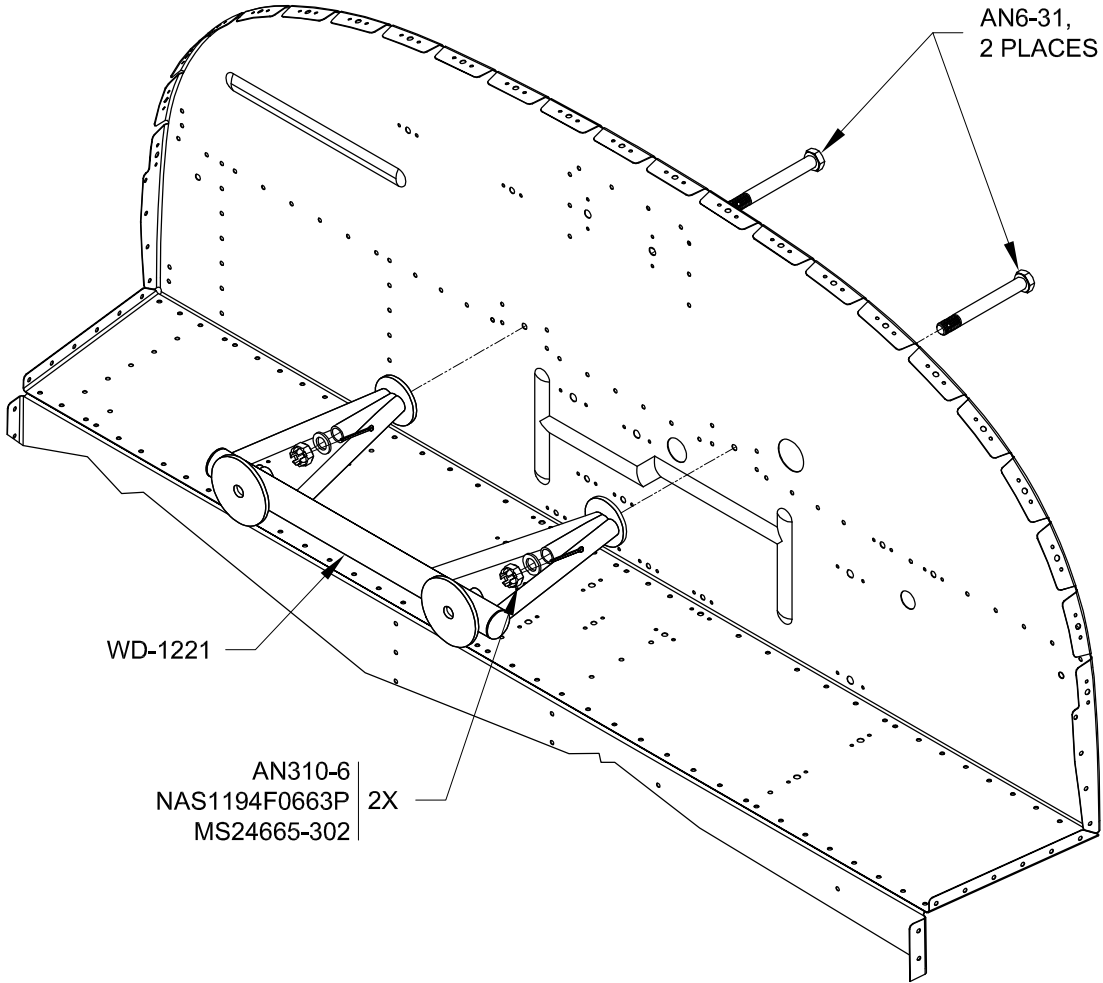

FIGURE 1: ATTACHING THE ENGINE MOUNT STANDOFF
Step 2: Permanently bolt the WD-1221 Engine Mount Standoff to the Firewall Assembly using the hardware called out in Figure 1. If the bolt holes do not align, up to 1/32 may be filed from edges of holes to allow bolts to pass through the Firewall Assembly and into the engine mount standoff.